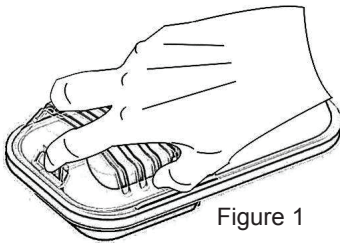

Figure 1
2. Press the hook in front of the light cover as in Figure 1 and remove the light cover,